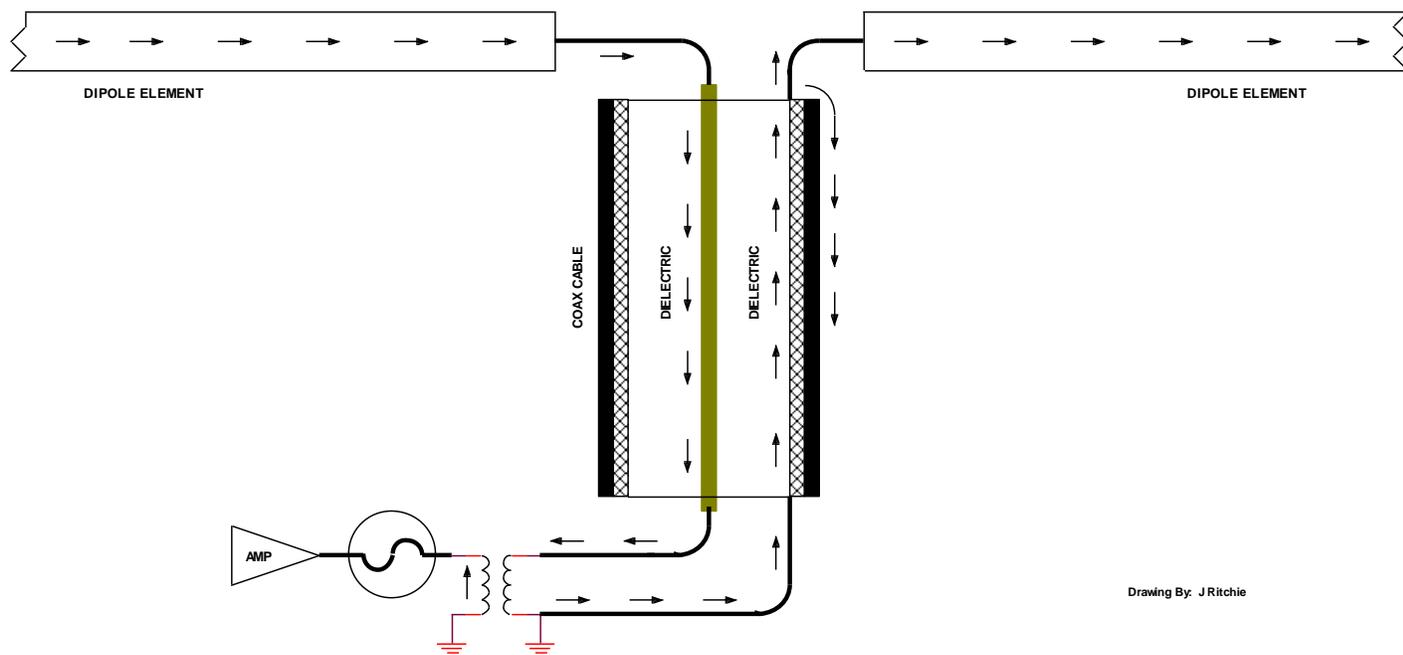

Figure 1
When RF current migrates to the outer shield surface of the coax cable, this is identified as “common-mode current”. By connecting an *unbalanced* cable to a *balanced* antenna, this will cause some level of RF common-mode current. Understanding how the RF energy migrates to the cable’s outer shield surface can be confusing. RF (AC) energy (unlike DC energy) travels on the “outer surface” of conductors. This phenomena is called the “skin effect” and plays a major role in how the RF energy travels within the coax cable. The drawing below (Figure 1) shows that the antenna driven element on the left is connected to the coax cable’s center conductor. Due to the “skin effect”, RF energy connected to the cable shield actually travels between the cable’s dielectric material and inner surface of the shield. When the RF energy reaches the cable end, it splits into two paths. Most of the RF energy goes into the element because of its wavelength, but some of the RF goes down the coax outer shield. The RF current on the shield’s outer surface is considered “common-mode current”. This RF current has no return path and is radiated into the air, so the shield outer surface becomes part of the antenna. At the lower HF frequencies, the antennas operational bandwidth is very narrow and operating out of this range will cause more RF energy to flow on the feedlines outer surface.